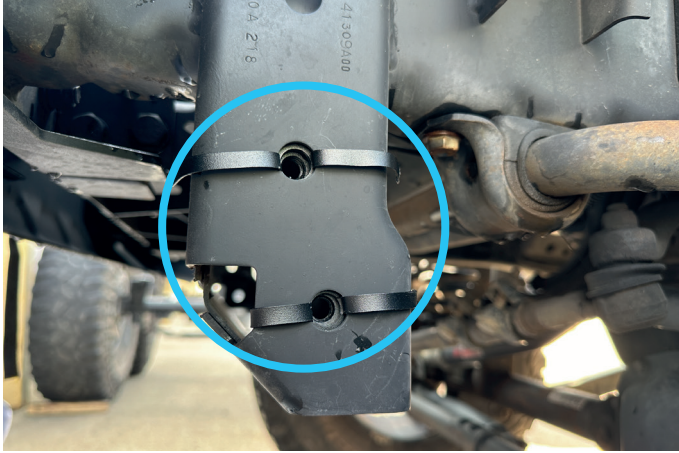

Fig. 1
1. Install insert nut M10 with wires (item 6), as shown in fig.1.